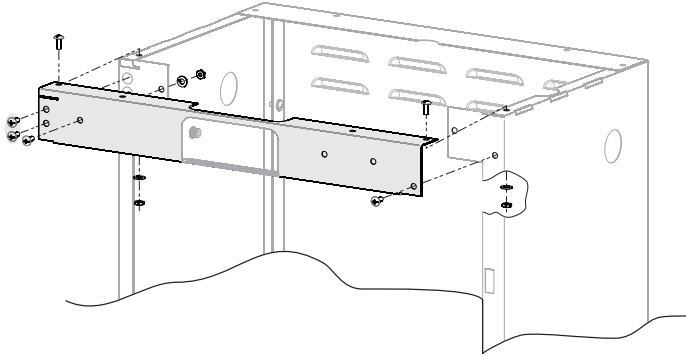

Figure 5
7. Secure the Stabilizing Bracket to the Cart Assembly with four 1/4-20 x 3/4 screws, four lock washers and four nuts. Do not tighten. See Figure 5.
8. For alignment purposes, place two 1/4-20 x 3/4 screws into the holes provided on the left side of the stabilizing bracket. See Figure 5. These screws will be removed and reused in later steps.